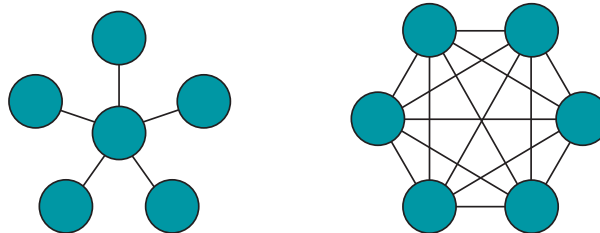

Figure 4. Star topology (left) and Mesh topology (right)
Wireless networks can be also be categorized by their *topology* – the way nodes in the network are arranged and connected to each other. The first two fundamental network topologies are **star** and **mesh** as depicted in Figure 4. In a star topology, all the nodes are connected to one central node, which is typically also used as the gateway to the Internet. A popular example of a star topology is a Wi Fi network, where the center node is called an *access point* (AP) and the other nodes are called *stations*.
In a mesh network, every node can connect to multiple other nodes. One or more nodes in the network serve as an Internet gateway. In the example of Figure 4 every node in the network is connected to every other node. In real life mesh topology is simpler. A popular example of a mesh network is a ZigBee® Light Link™ network where multiple lights form a mesh network to extend the network reach in large buildings. One of the ZigBee nodes is called a coordinator, and it usually serves also as an Internet gateway.